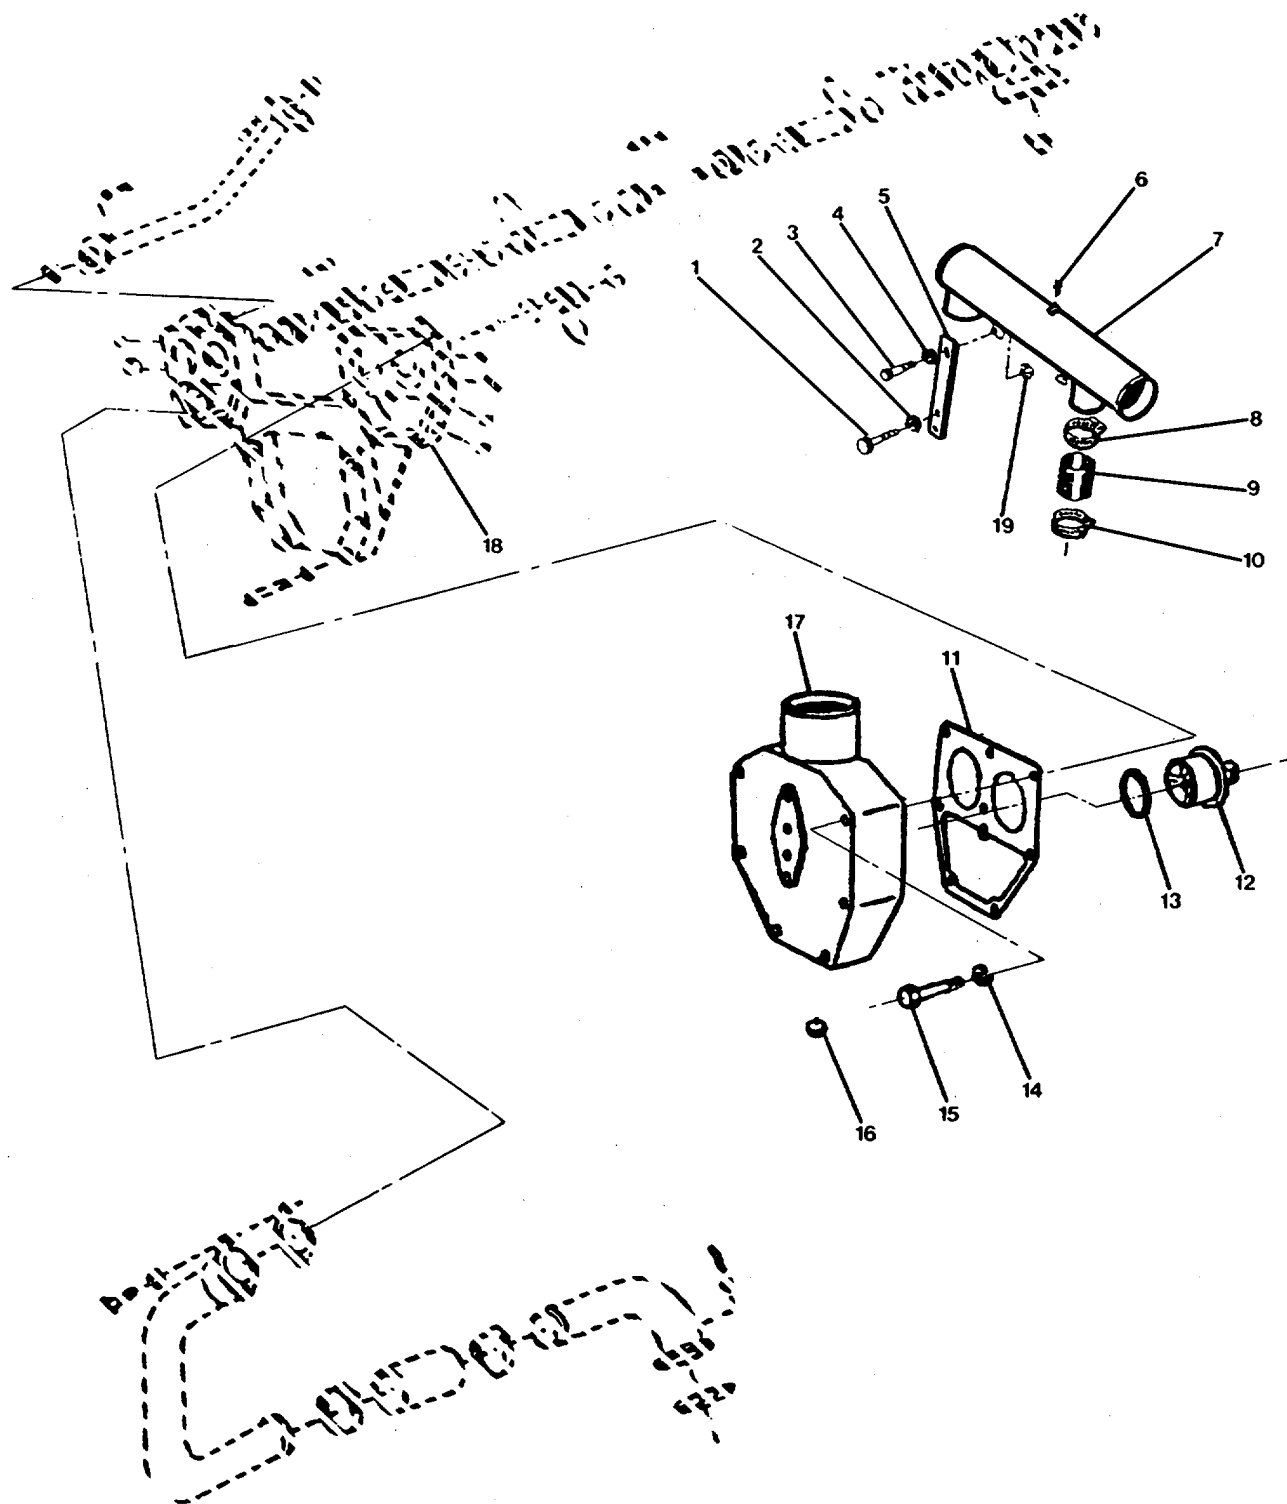

FIGURE 2-11. Thermostat Housing/Water Transfer Coupling.
- b. Remove clamp (10, FIG. 2-11) retaining the coolant nonmetallic outlet hose (9) to thermostat housing (17). Remove clamp (8) to water transfer connection piping (7). Remove the outlet nonmetallic hose (9).
- (1) Remove six hexagon head capscrews (15, FIG. 2-11) and lockwashers (14) retaining thermostat housing (17) to housing support (18).
- (2) Remove thermostat housing (17) and thermostat housing gasket (11). Discard gasket.
- (3) Remove thermostat (12) and thermostat seal (13). Discard seal.
- (4) Remove pipe plug (16).
- (1) Remove pipe plug (6, FIG. 2-11).
- (2) Remove four hexagon head capscrews (1 and 3), lockwashers (2 and 4), and nuts (19).
- (3) Remove tube braces (5).
- (4) Remove the water transfer connection (7).
- (1) Position water transfer connection piping (7, FIG. 2-11).
- (2) Position tube braces (5). Secure with nuts (19), lockwashers (2 and 4), and hexagon head capscrews (1 and 3).
- (3) Install pipe plug (6).